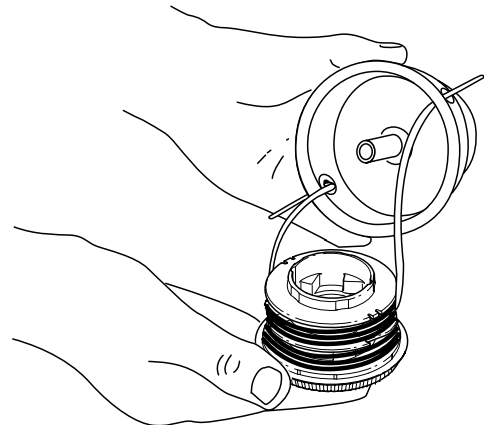

Fig. 24
- Insert the ends of the prewound inner reel line into the outer spool eyelets (Fig. 24). Push the new inner reel, arrow side up, into the outer spool.